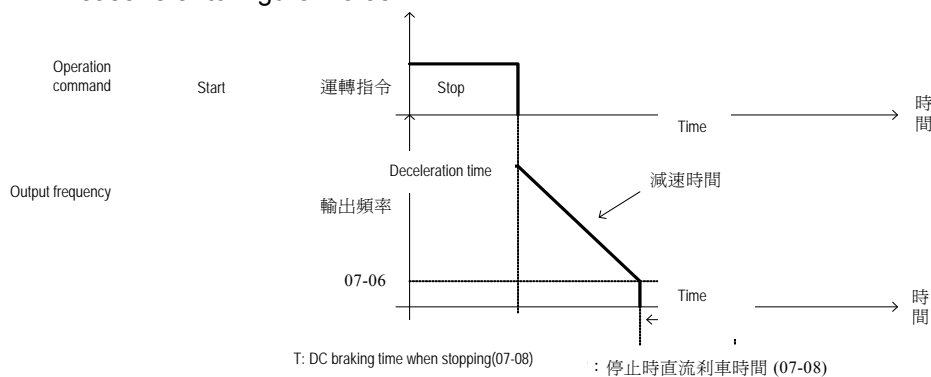

Figure 4.3.58 Deceleration to stop
- Please refer to Figure 4.3.58